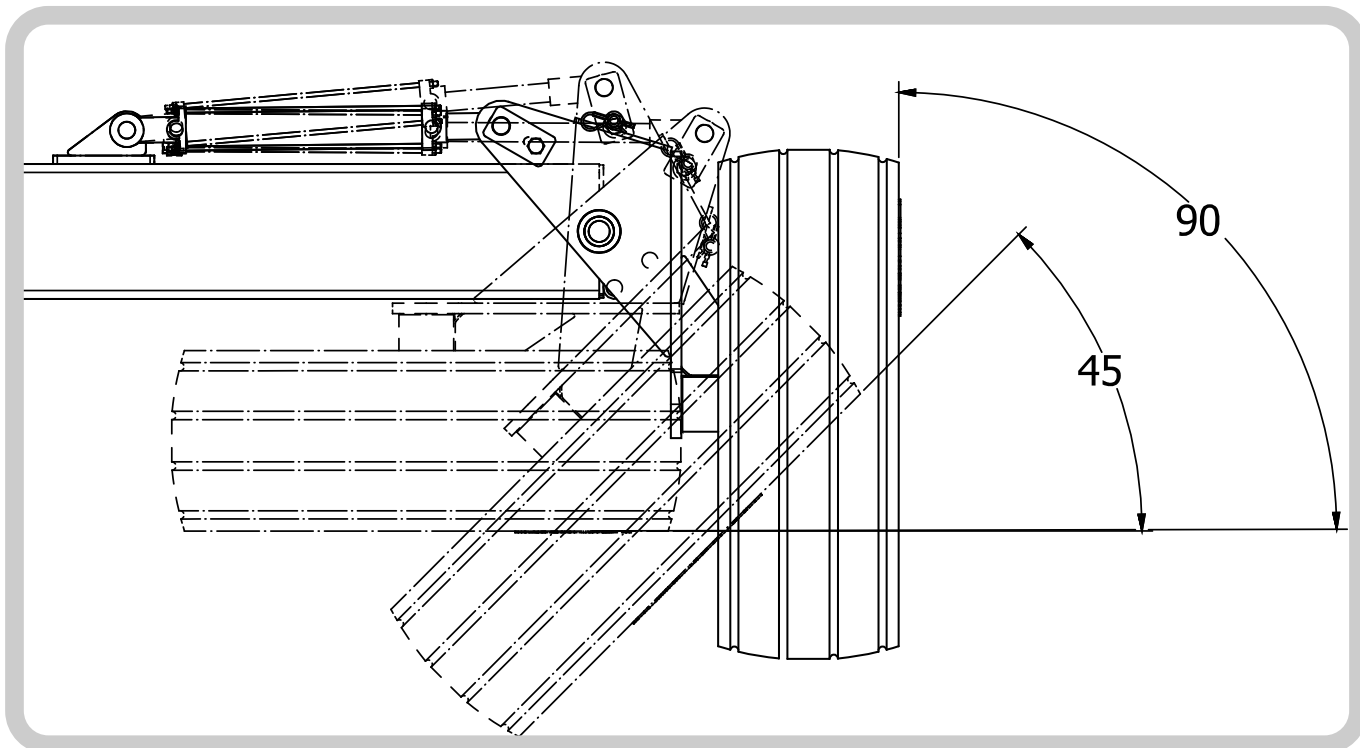

FIGURE 4
7. From the cab of the tractor, rotate pivot wheels to 45° (**GREEN** hydraulic remote) (fig. 4).